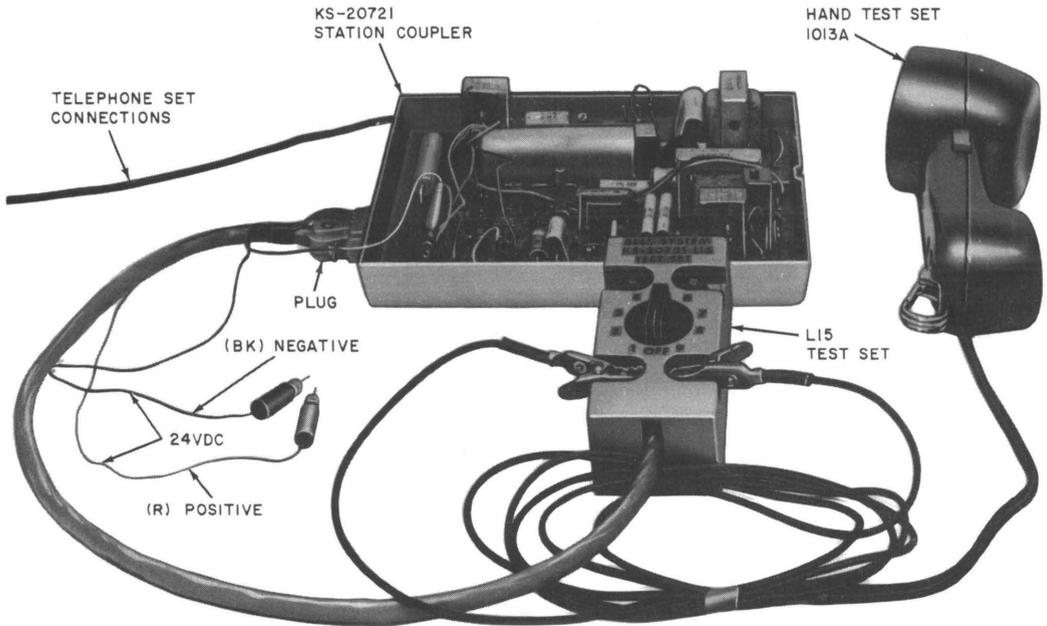

Fig. 3—KS-20721 Station Coupler With KS-20721, List 15 Test Set and 1013A Hand Test Set
4.02 The List 15 test set (Fig. 3 and 4), used with the 1013A hand test set (or equivalent) and a connecting cable terminated in a plug for connection to the station coupler, permits checkout of the coupler independent of the CPE.
| 3 | Connect a 1013A (or equivalent) hand test set to terminals provided on test set (Fig. 3). | |
| 6 | Connect alligator clip on wire coming from the test set plug to the positive (+) terminal of capacitor C17 in the station coupler (Fig. 3). | |